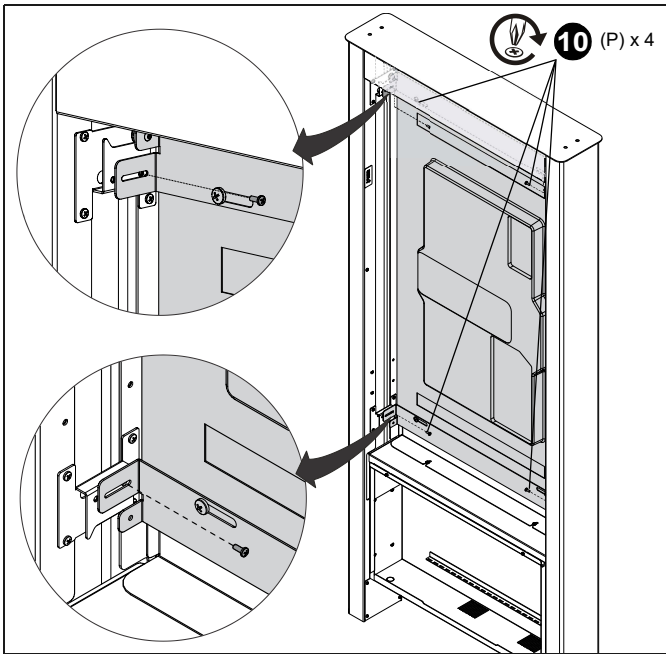

Figure 9
10. Install the upper and lower interface brackets on the monitor to the interface plates on the kiosk frame using four 10-24 x 1/2" screws (P). (See Figure 9)